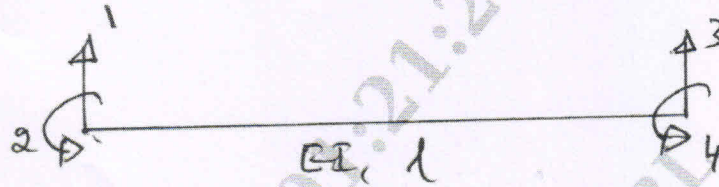

Fig. Q9 (a)
- 9 a. Develop the stiffness matrix for the given beam element as shown in Fig. Q9 (a) by direct stiffness method. (10 Marks)